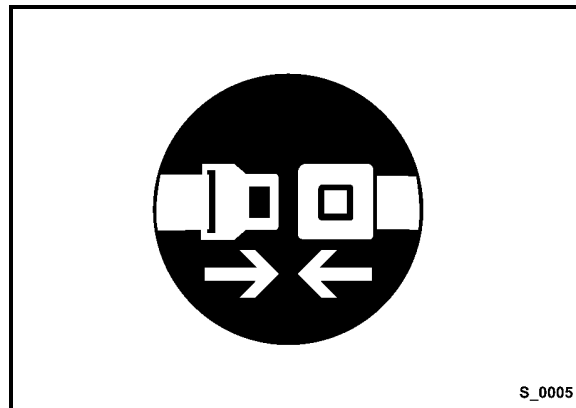

Fig. 52
- Fasten your seat belt (Fig. 52).